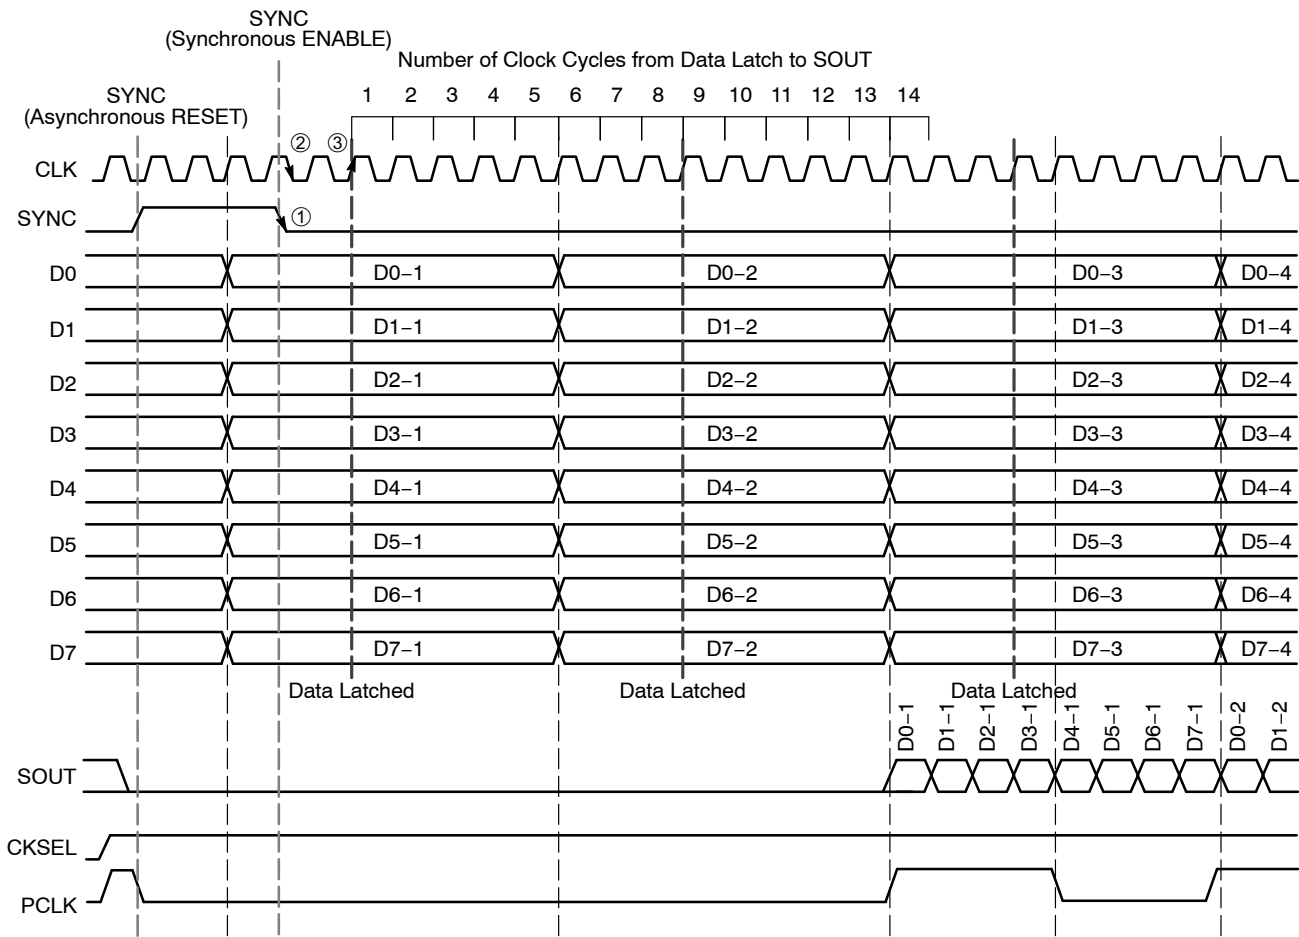

Figure 11. Timing Diagram 1:8 Parallel to Serial Conversion with CKSEL HIGH and SYNC
For CKSEL HIGH, as shown in the timing diagrams below, the device will start to latch the parallel input data after the falling edge of SYNC ①, followed by the falling edge CLK ②, on the second rising edge of CLK ③ (Figures 11 and 12).